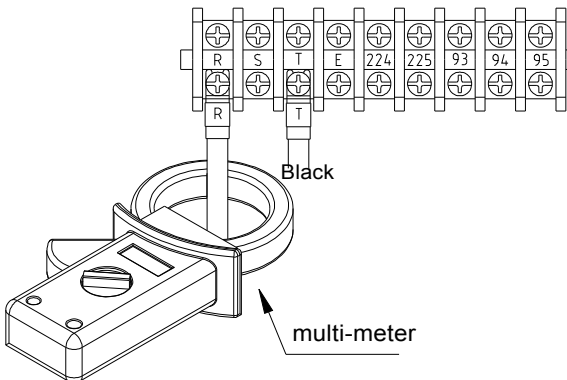

Figure 23
- 2 \ Use multi-meter to measure the current and voltage to see If It's stable? (See Figure 23)